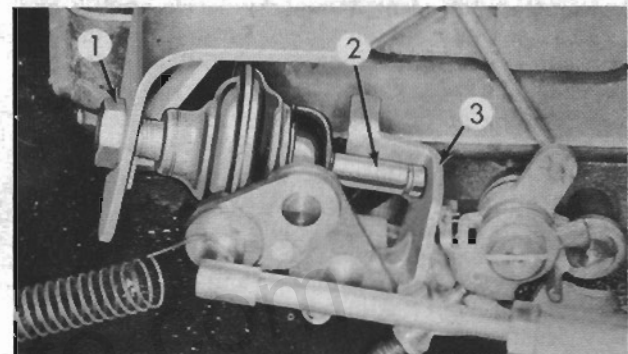

FIG. 105
Throttle Return Check (Dash Pot)—On President Y and Skyhawk models with automatic transmission, after completing the fast idle adjustment and with the throttle closed against the high idle step of the cam, adjust the dash pot to provide $1/16''$ (1.59 mm.) clearance between the end of the dash pot plunger (3, Fig. 105) and the lip of the throttle arm. Tighten the lock nut (1) securely.